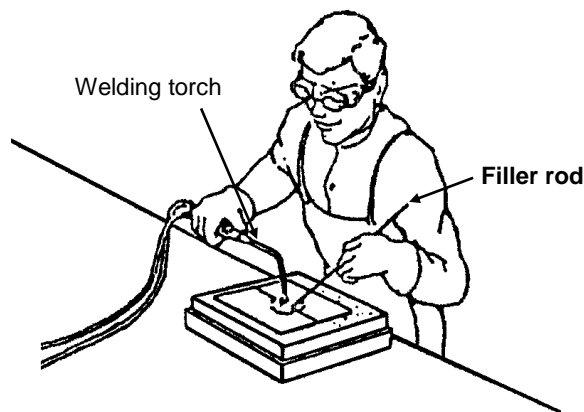

FIG 1.
A. In oxy-acetylene welding, oxygen and acetylene are mixed in a blowpipe (torch) and a flame hot enough to melt the metal which has to be joined, is produced. A filler rod is used to build up the body of the joint. (Fig 1)